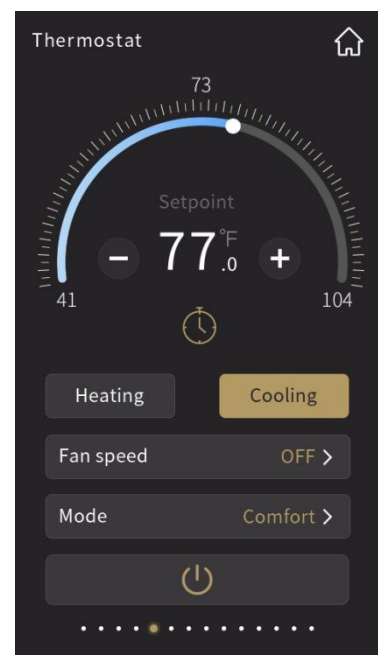

Fig.2.3.3
⑤ The function of this icon is to decrease the temperature;
⑥ The function of this icon is to increase the temperature;
Adjusting the temperature by sliding the ring slider④ or touching the icon⑤ and icon⑥. For each touching of icon⑤ and icon⑥, the adjustment range is 0.5 degrees. When the setting temperature unit is set to degrees Celsius(°C), as shown in 2.3.1, adjustment range of the setting temperature is 5~40°C by default; when the setting temperature unit is set to Fahrenheit(°F), the current temperature value will automatically convert to Fahrenheit value, as shown in Fig.2.3.3, adjustment range of the setting temperature is 41~104°F by default. The temperature adjustment range can be modified through parameter setting.